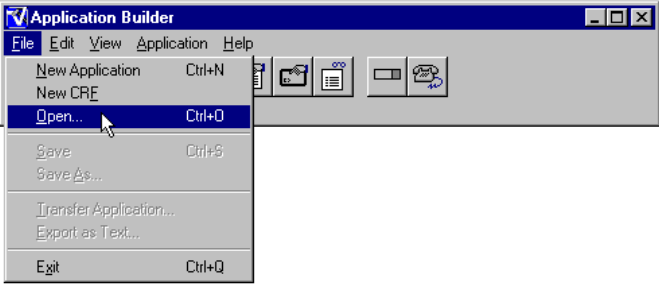

Figure 1-6 File Menu – Open Application
- 6. Choose **Open** from the **File** menu (Figure 1-6) or type **Ctrl+O**.